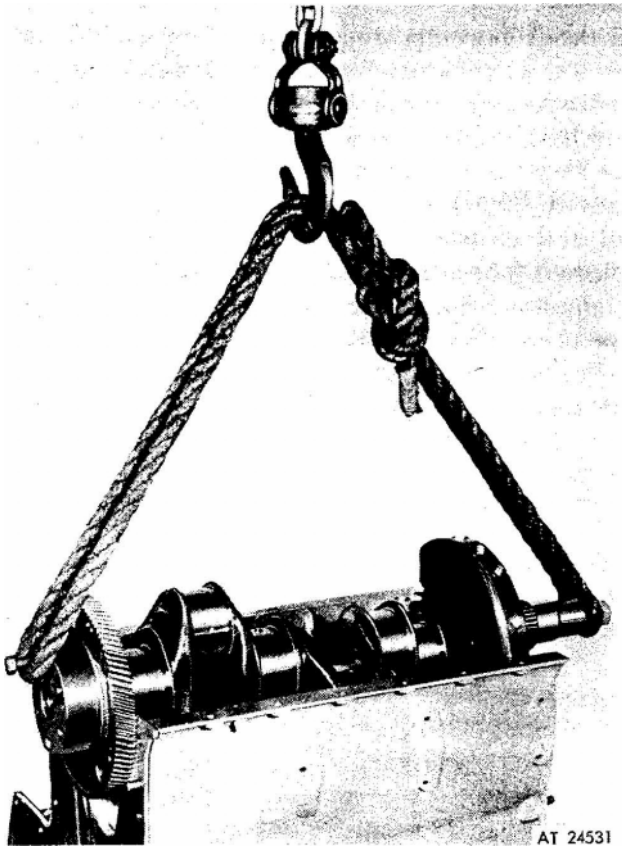

Figure 2. Lifting or lowering crankshaft from into cylinder block.
19. Remove the crankshaft, including timing gear (fig. 2).